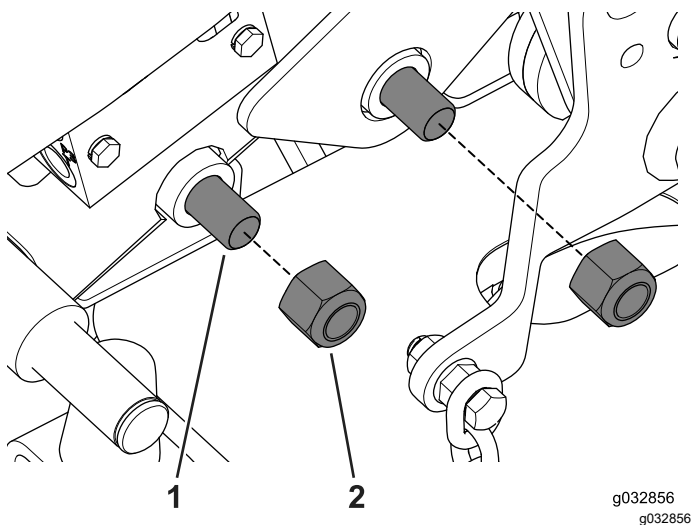

Figure 121
2. Align the bolt holes to loosely install the bolts and spacers on the left side of the machine (Figure 121).